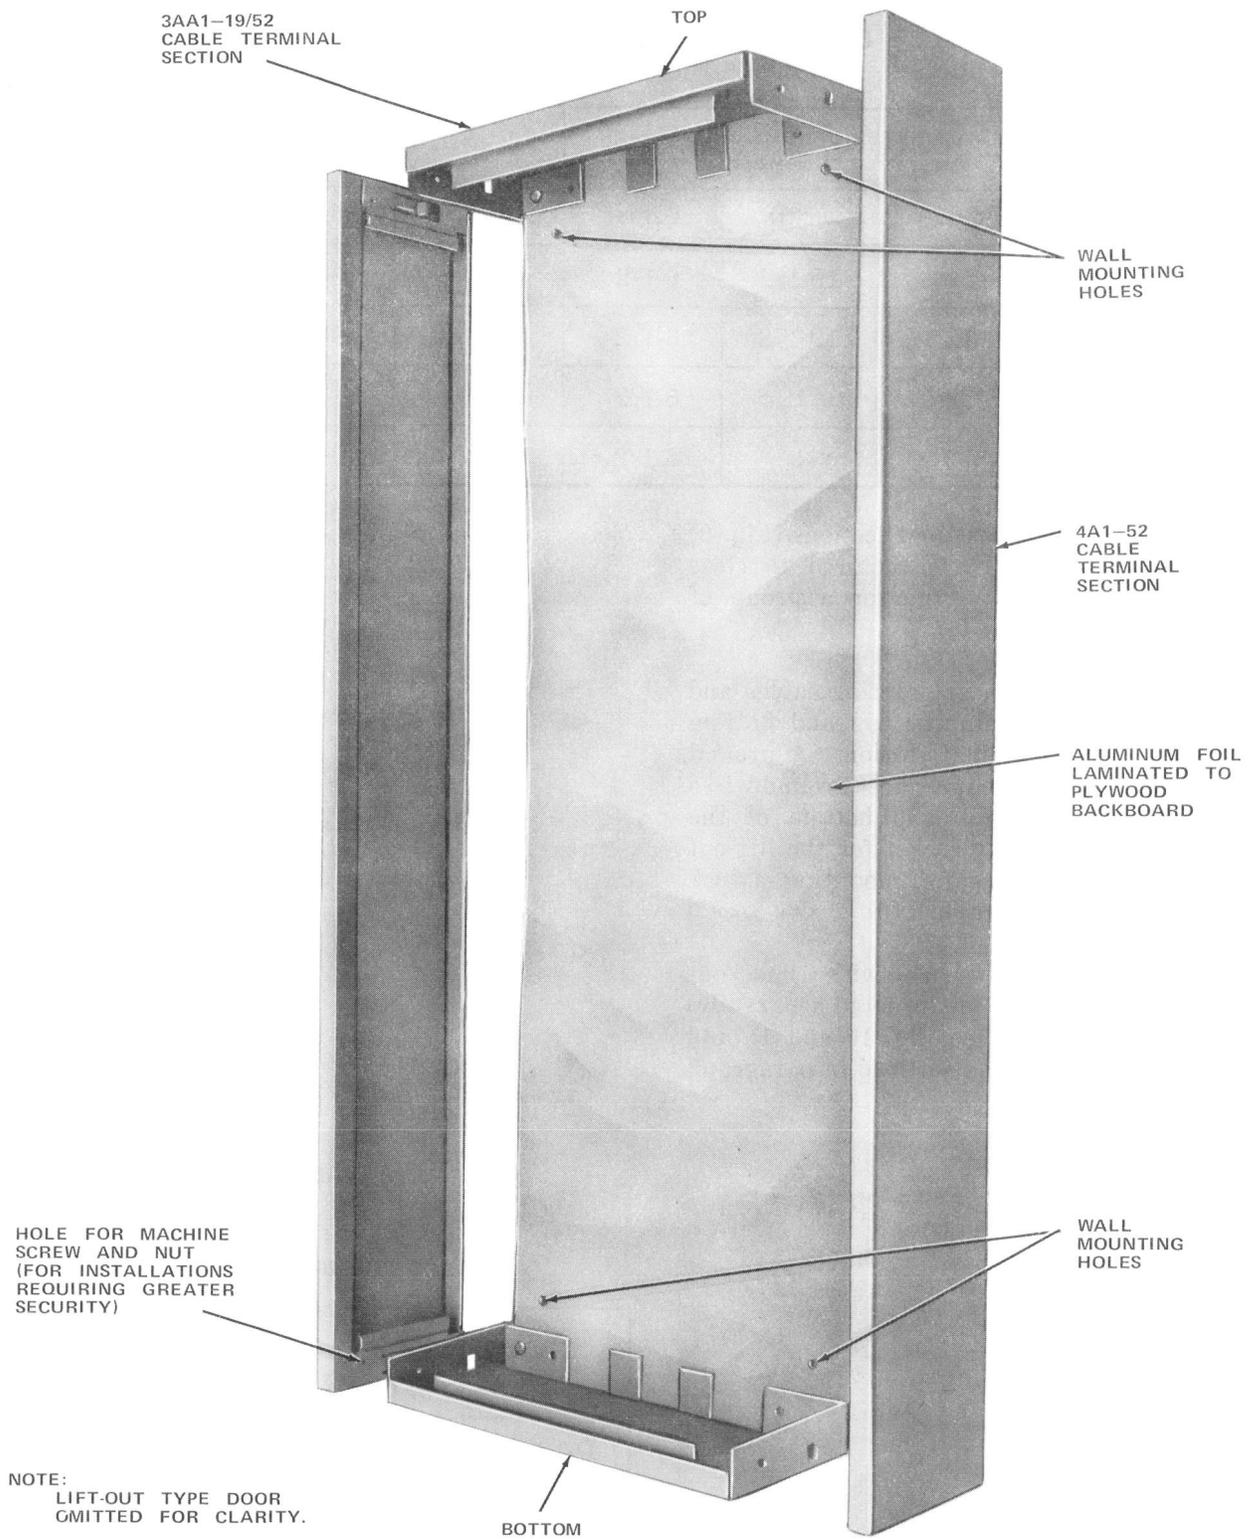

Fig. 9—3AA1-Type Cable Terminal Section
2.13 The 3A-type cable terminal section (Fig. 9) is a preassembled housing consisting of a metallic top and bottom bolted to a aluminum foil covered plywood backboard. A lift-out type door is furnished with the housing. The 3A-type cable terminal sections are available in two sizes as listed in Table D.
2.14 Two 4A-type cable terminal sections (Fig. 9) (ordered separately) are required to close the ends of one 3A-type section or a group of sections.